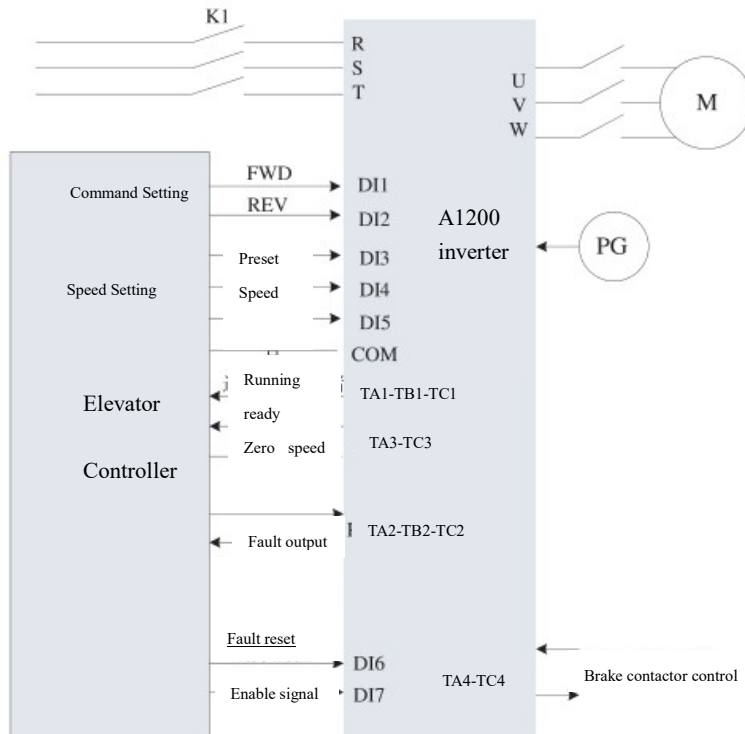

Figure 7-1 Wiring Diagram of Preset Speed Control
- ◆ 1) In figure 7-1, except TA2-TB2-TC2, function parameters of other input and output points have been configured at the factory and can only be changed when necessary;